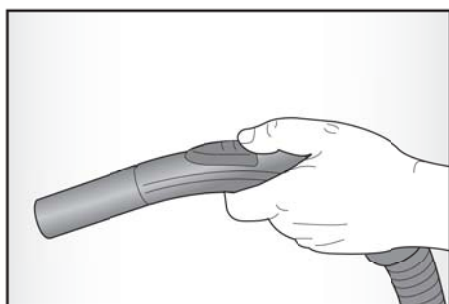

Fig. 4
The secondary air valve (P) is on the hand grip (Q) and it is used to regulate suction power (FIG. 4). The larger the valve opening, the lower the suction power and vice versa.